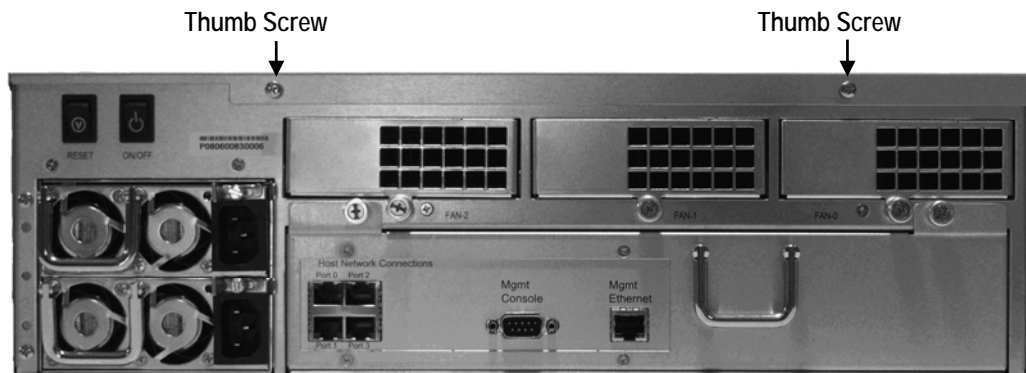

Figure A-2. Remove the Top Cover Thumb Screws
2. Remove the thumb screws on the rear panel, as shown in Figure A-2.